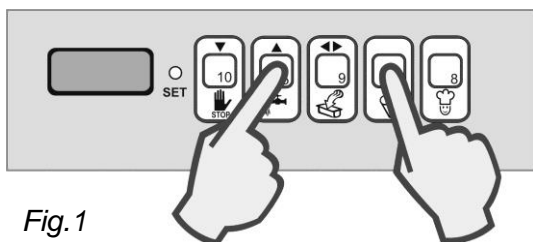

Fig. 1
3. With the machine at STOP, press “**AGITAZIONE (MIXING)**” and “**AUTOMATICO (AUTOMATIC)**” simultaneously and release them only after the password identification screen appears (Fig. 1).